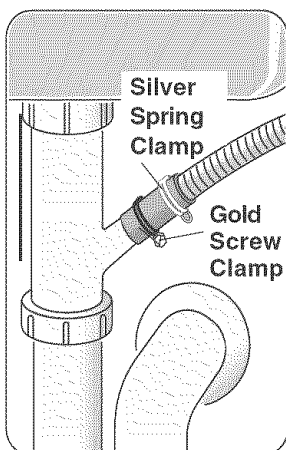

Figure 24
- 1 Directly to the undersink dishwasher drain connection, as shown in **Figure 24**.